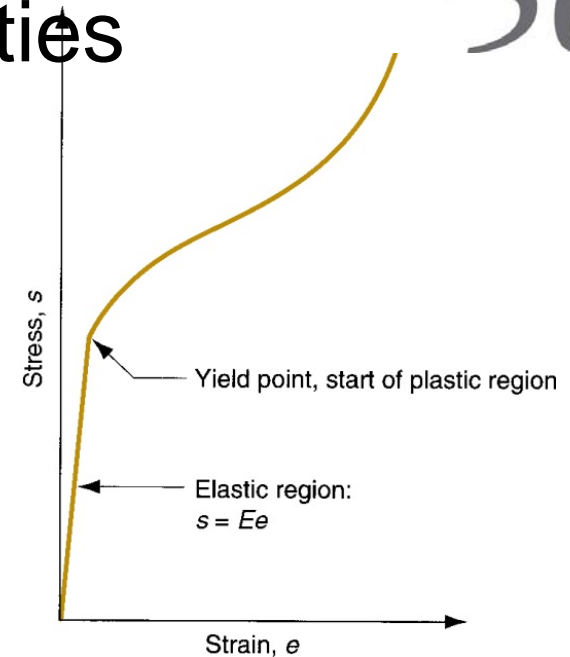

Fig. 14: Typical engineering stress-strain curve for a compression test.
- Fig. 14 shows an engineering stress-strain curve. The curve has elastic and plastic regions as before, but the shape of the plastic region is different from its tensile test complement. Reasons: